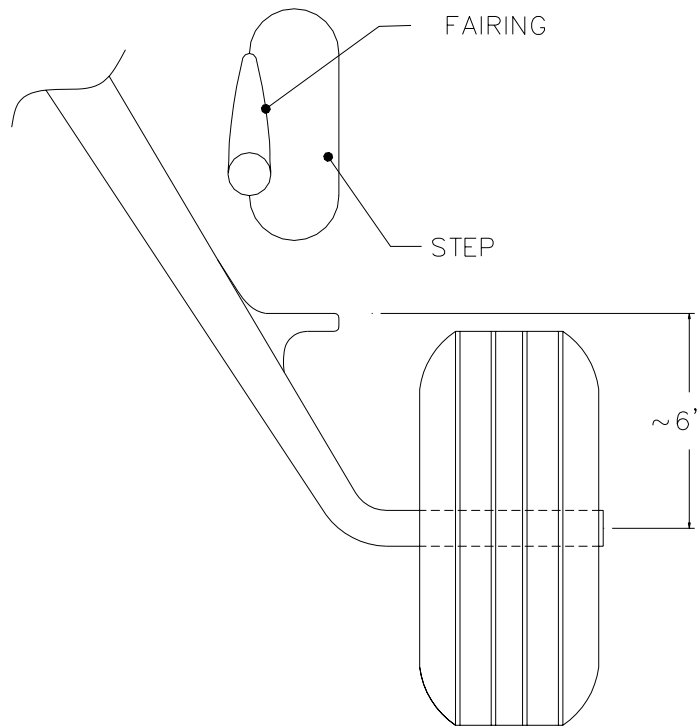

Figure 63: Optional Foot Step
If desired, a foot-step can be added to the fairing which provides a place to stand when filling the fuel tanks and no ladder is available. On the Sportsman (taildragger struts), we added such a step as shown in Figure 63. We also found it handy for climbing in and out of the plane and wiping the windscreen. **This step does not work well for the tricycle configured airplanes as the main gear strut is too far aft to be useful.**
The step is added by taking a piece of the left over foam and sanding it into a crescent-moon shape and attaching it to the strut (with bondo) approximately level with the waterline as shown in Figure 63. Fill in any voids with the thick Q-cell mix and seal the foam with a thin mixture and laminate (8) plies onto the upper and lower surface. Be sure to taper the laminates onto the strut making each ply overlap the last one by 1/4 inch. The last ply should extend 1.5 - 2" onto the strut.